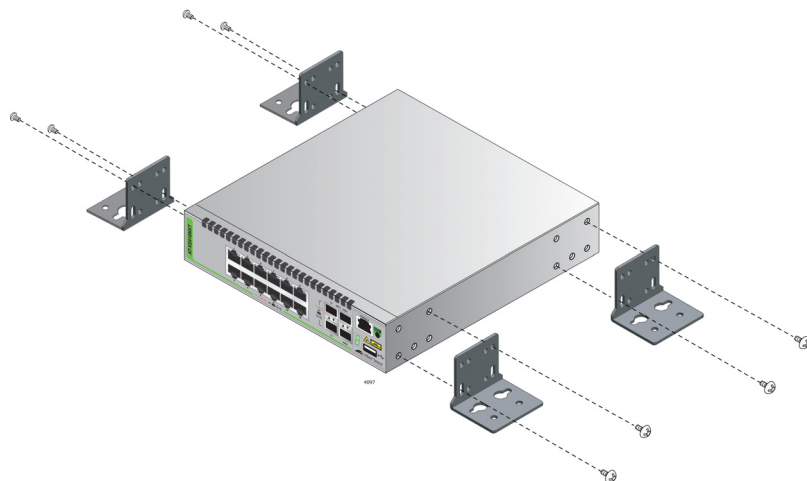

Figure 19. Attaching the Wall Brackets
4. Attach each bracket to the switch using two screws, which should be installed diagonally as shown in Figure 19.